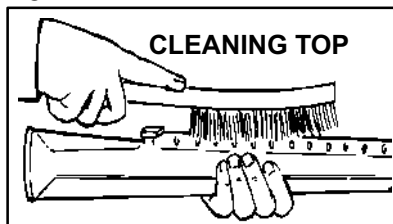

FIGURE 19
- 3- Clean top of burner ports with a wire brush. See figure 19.